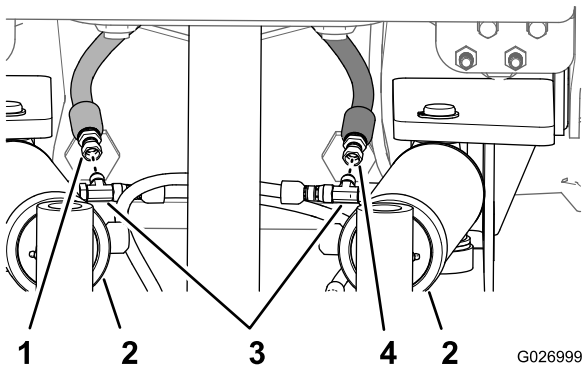

Figure 16
2. Connect the left pivot-cylinder hose to the T-fitting at the left pivot cylinder (Figure 16) and torque the swivel nut of the hose to 21 to 28 N-m (15 to 21 ft-lb).
3. Connect the right pivot-cylinder hose to the T-fitting at the right pivot cylinder (Figure 16) and torque the swivel nut of the hose to 21 to 28 N-m (15 to 21 ft-lb).
4. Rotate the T-fittings back and up approximately 60° (Figure 16) and torque the swivel nuts for the T-fittings to 32 to 39 N-m (23 to 29 ft-lb).